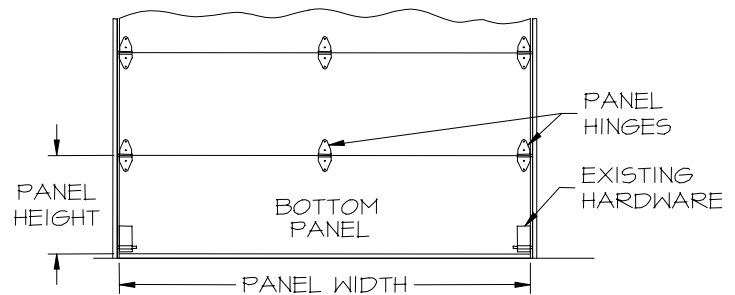
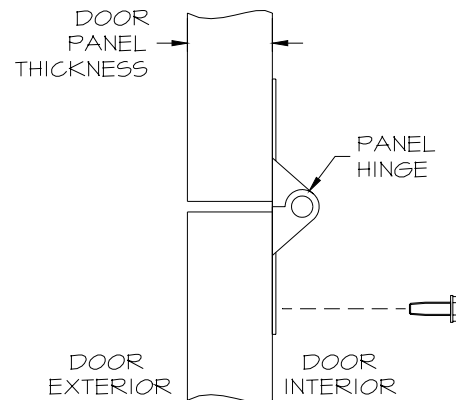

FIG. 1A
FIG. 1B
- **Compare** existing Bottom Panel **height, width** (Figure 1a), and **thickness** (Figure 1b) to Breakaway Panel.